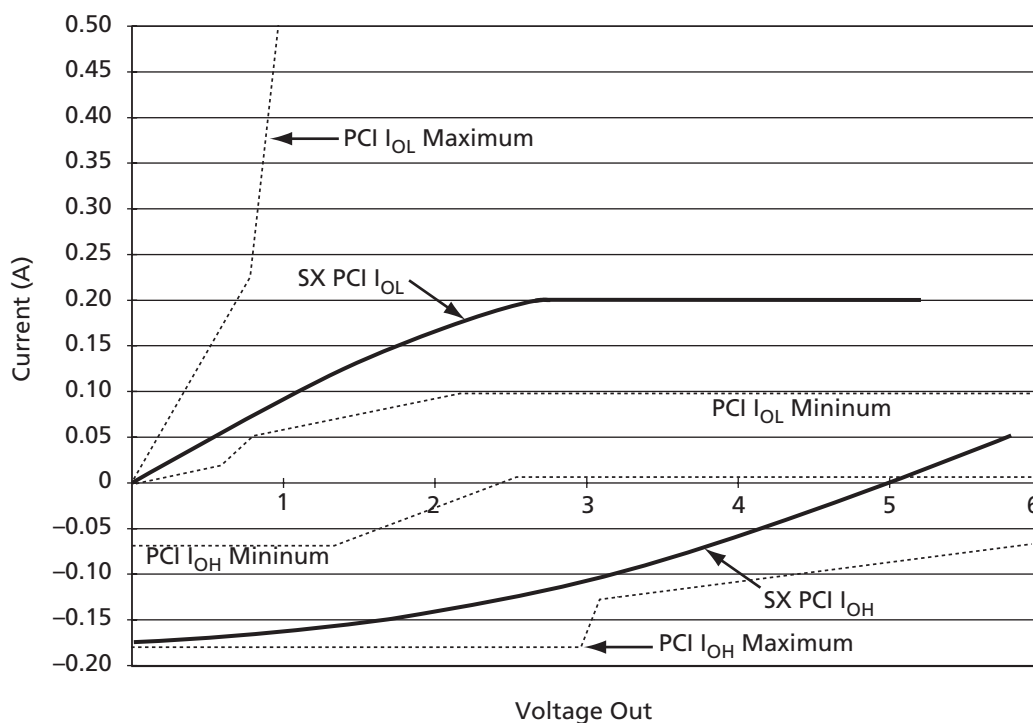

Figure 1-9 • 5.0 V PCI Curve for A54SX16P Device
1. Refer to the *V_I* curves in Figure 1-9 on page 1-11. Switching current characteristics for REQ# and GNT# are permitted to be one half of that specified here; i.e., half-size output drivers may be used on these signals. This specification does not apply to CLK and RST#, which are system outputs. "Switching Current High" specifications are not relevant to SERR#, INTA#, INTB#, INTC#, and INTD#, which are open drain outputs.
3. Maximum current requirements must be met as drivers pull beyond the last step voltage. Equations defining these maximums (A and B) are provided with the respective diagrams in Figure 1-9 on page 1-11. The equation defined maxima should be met by design. In order to facilitate component testing, a maximum current test point is defined for each side of the output driver.
Figure 1-9 shows the 5.0 V PCI V/I curve and the minimum and maximum PCI drive characteristics of the A54SX16P device.